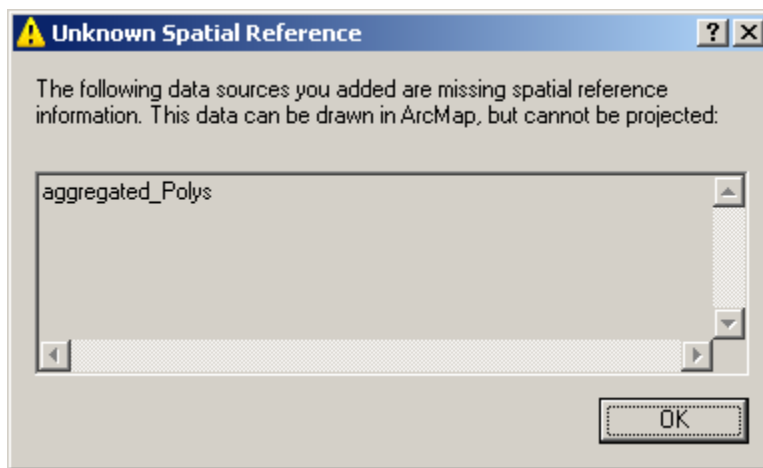

Figure 5-13—Unknown Spatial Reference window from ArcMap.
- 5) LTD does not include a visual display of the output data. Open ArcMap, and add the aggregated_Polys.shp shapefile to the map. The spatial reference is undefined for the shapefile (fig. 5-13).